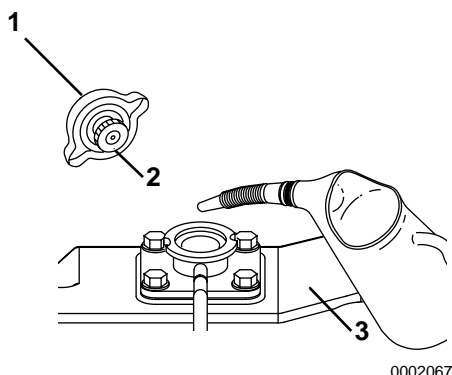

Figure 7
2. Remove the fill cap (Figure 7, (1)) on the heat exchanger (Figure 7, (3)) by turning the cap counterclockwise 1/3 of a turn.
3. NOTICE: NEVER pour cold coolant into a hot engine. Pour coolant mix slowly into the heat exchanger (Figure 7, (3)) so that air bubbles do not develop. Pour until the coolant overflows from the filler port.
4. After filling the heat exchanger, replace fill cap and tighten it firmly (Figure 7, (1)). Failure to do so will cause coolant leakage. To replace the cap, align the tabs (Figure 7, (2)) on the bottom of the cap with the notches on the filler port and turn clockwise 1/3 of a turn. **WARNING! ALWAYS tighten the coolant tank cap securely after checking the coolant tank. Steam can spray out during engine operation if the cap is loose.**